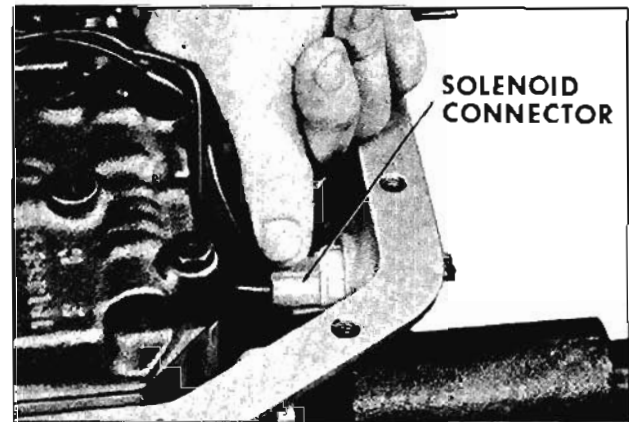

Fig. 6-260 Disconnecting Solenoid Connector
Refer to Figs. 6-260 through 6-269, 6-307 through 6-315 and 6-457 through 6-465.
- 1. Disconnect solenoid connector from solenoid junction. (Fig. 6-260)